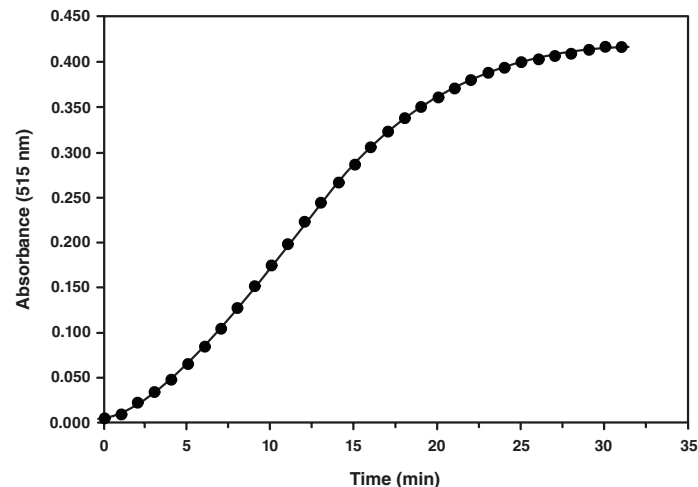

Figure 3. Human lysine specific histone methyltransferase SET7/9 assayed with 20 μM TAF-10 as the acceptor substrate.
This assay is suitable for use with all purified SAM-dependent methyltransferases. It is necessary to titrate each enzyme/substrate system in the assay to determine optimal conditions. An example of human lysine specific histone methyltransferase, SET7/9, assayed with 20 µM of the acceptor substrate TAF-10, is shown in Figure 3 on page 15.⁴ Avoid the use of reducing agents (including DTT, β-mercaptoethanol, and TCEP) and metal chelators, such as EDTA and EGTA, as these have an inhibitory effect on the reaction. If these reagents are present, dialysis against 0.1 M Tris-HCl, pH 8.0, is recommended.
- a) Plot the absorbance values as a function of time to obtain the slope (rate) of the linear portion of the curve (an example of human lysine specific histone methyltransferase, SET7/9, assayed with 20 μM of the acceptor substrate TAF-10, is shown in Figure 3 on page 15)